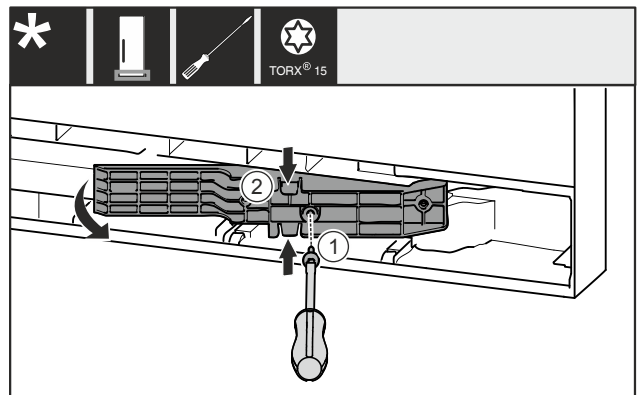

Fig. 10 \*
- ▶ Remove the screw Fig. 10 (1).\*
- ▶ Gently press the top and bottom of the adapter piece Fig. 10 (2) together and pull it out.\*